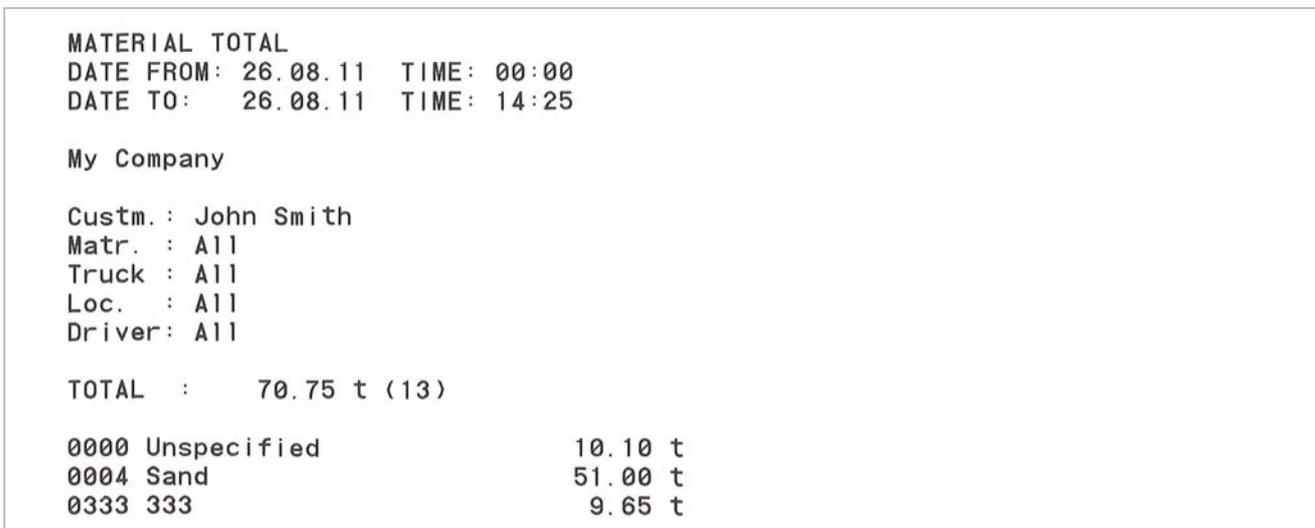
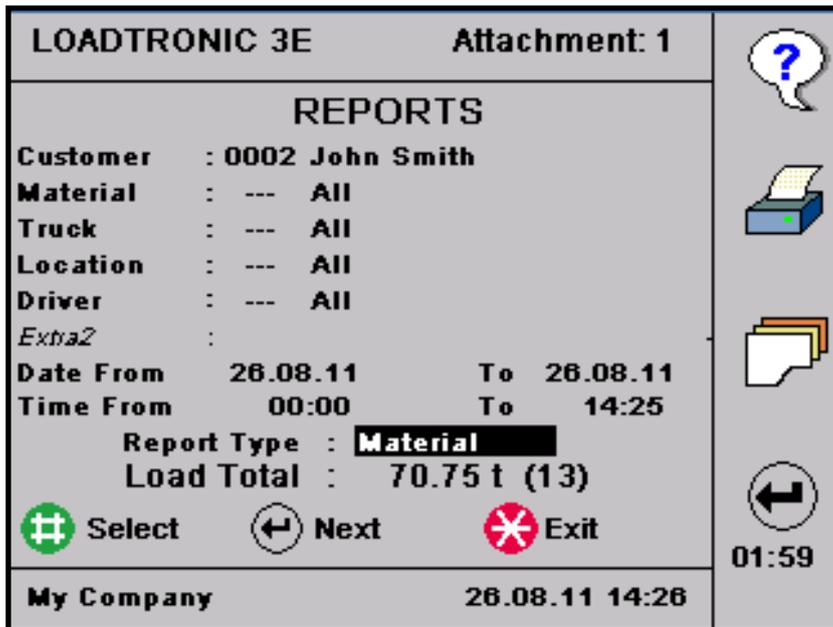

Figure 4-13 Specified report of the material delivered to customer John Smith.
Figure 4-15 Build the specified report as presented in Figure 4-13.
You can specify the report based on one or more of the job details: customer, material etc. An example of such a report is given in Figure 4-13, illustrating that customer John Smith has received 3 different types of material. The report also presents the weight of the material, and the total weight delivered based on the specification. The number of loads delivered is given in parenthesis next to the total weight.
4. Optionally, you can specify the report even more detailed by selecting Customer and/or Material and/or Truck etc, refer Figure 4-13 and Figure 4-15: